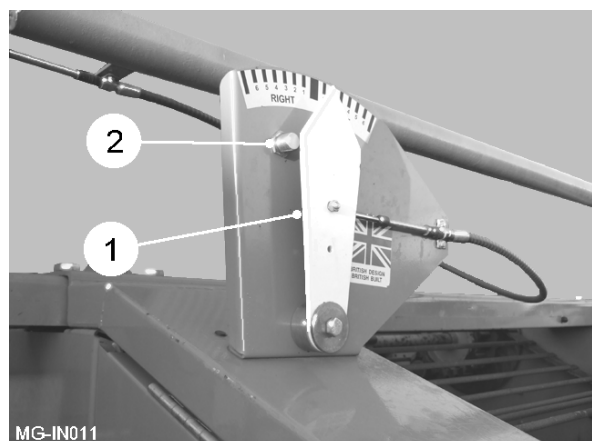

Fig 12
The axle steering is used to keep the machine correctly in the rows especially on sidling slopes. The steering indicator (item 1, fig 12) shows the current position of the wheels. The proximity sensors (item 2, fig 12) are part of the auto-centring circuit.